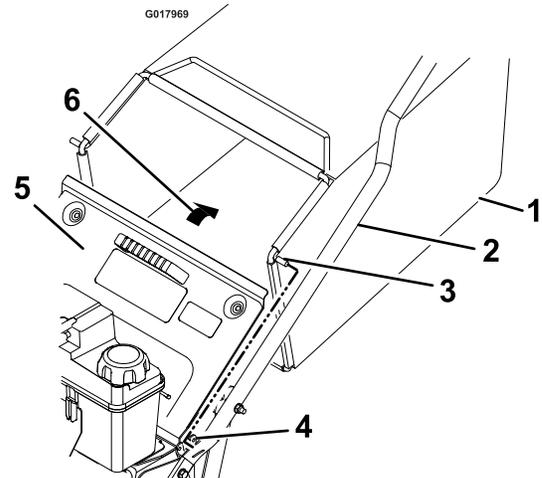

Figure 16
- Grasp the handle on the bag and set the rear of the bag frame onto the handle bracket notch (Figure 16).